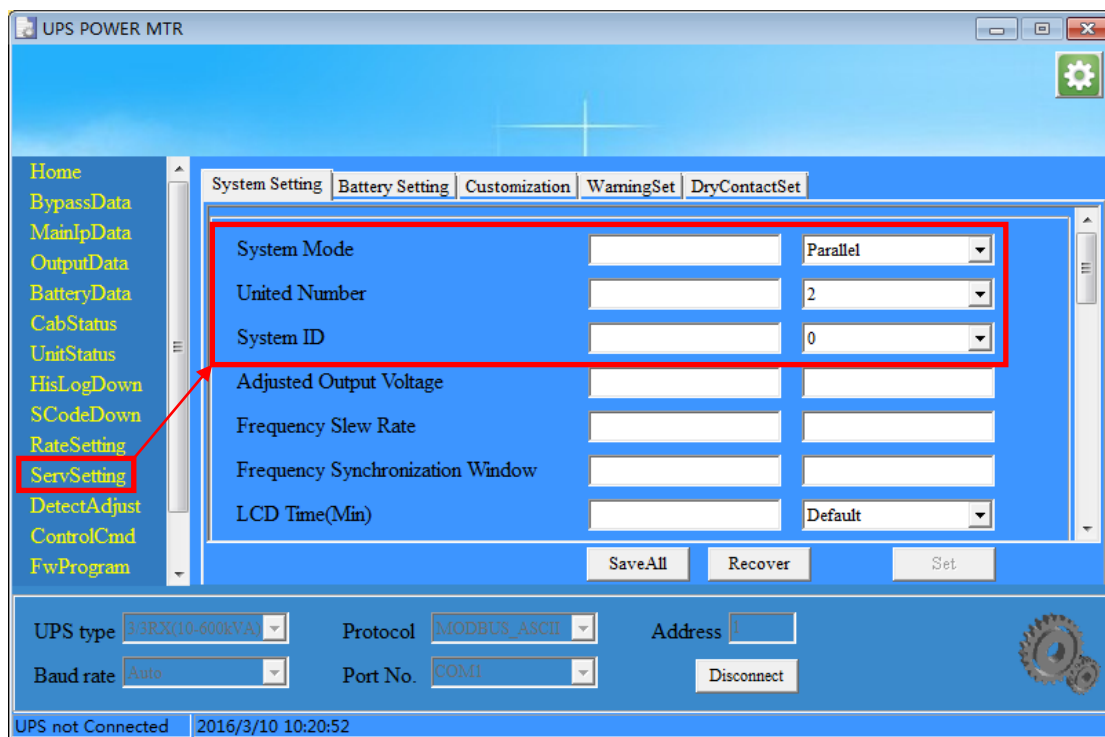

Figure 9 Service settings
6. Modify the service settings, as is shown in figure 9.